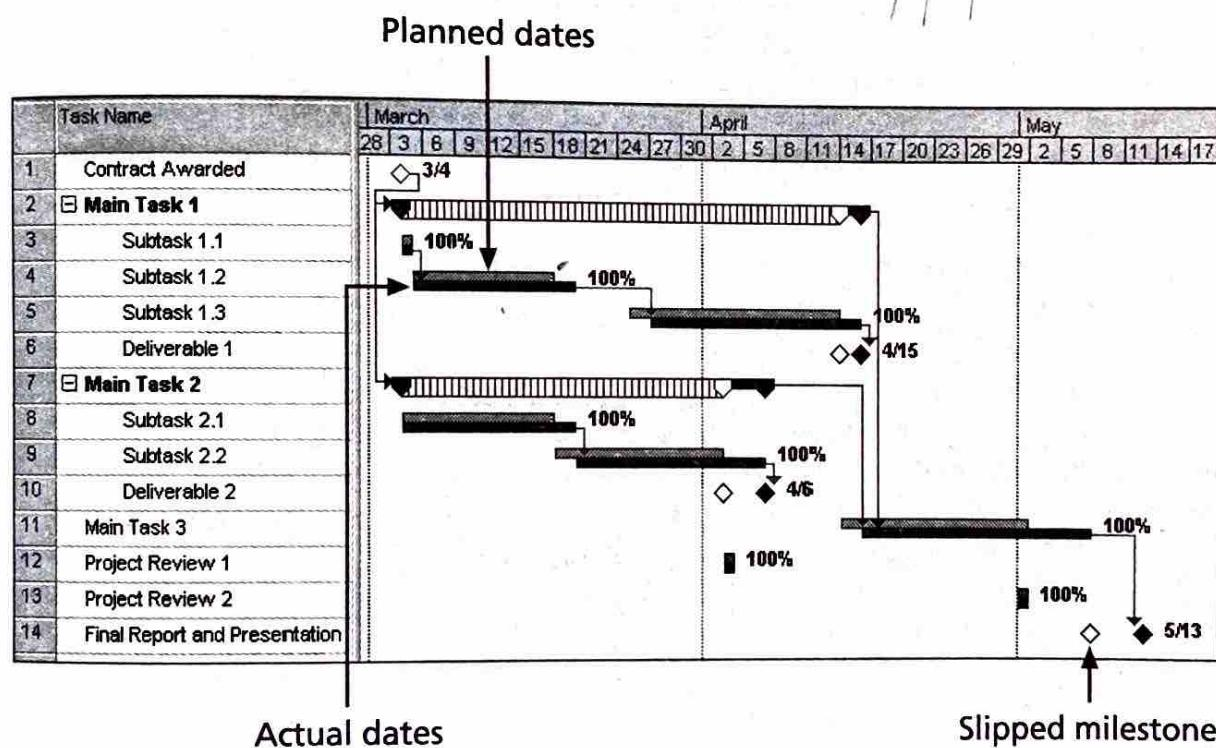

Figure 6-7. Sample Tracking Gantt Chart
You can use a special form of a Gantt chart to evaluate progress on a project by showing actual schedule information. Figure 6-7 shows a Tracking Gantt chart—a Gantt chart that compares planned and actual project schedule information. The planned schedule dates for activities are called the baseline dates, and the entire approved planned schedule is called the schedule baseline. The Tracking Gantt chart includes columns (hidden in Figure 6-7) labeled "Start" and "Finish" to represent actual start and finish dates for each task, as well as columns labeled "Baseline Start" and "Baseline Finish" to represent planned start and finish dates for each task. In this example, the project is completed, but several tasks missed their planned start and finish dates.
- Notice that the Gantt chart in Figure 6-7 often shows two horizontal bars for tasks. The top horizontal bar represents the planned or baseline duration for each task. The bar below it represents the actual duration. Subtasks 1.2 and 1.3 illustrate this type of display. If these two bars are the same length, and start and end on the same dates, then the actual schedule was the same as the planned schedule for that task. This scheduling occurred for Subtask 1.1, where the task started and ended as planned on March 4. If the bars do not start and end on the same dates, then the actual schedule differed from the planned or baseline schedule. If the top horizontal bar is shorter than the bottom one, the task took longer than planned, as you can see for Subtask 1.2. If the top horizontal bar is longer than the bottom one, the task took less time than planned. A striped horizontal bar, illustrated by Main Tasks 1 and 2, represents the planned duration for summary tasks. The black bar adjoining it shows progress for summary tasks. For example, Main Task 2 clearly shows the actual duration took longer than what was planned.
A Tracking Gantt chart is based on the percentage of work completed for project tasks or the actual start and finish dates. It allows the project manager to monitor schedule progress on individual tasks and the whole project. For example, Figure 6-7 shows that this project is completed. It started on time, but it finished a little late, on May 13 (5/13) versus May 8.